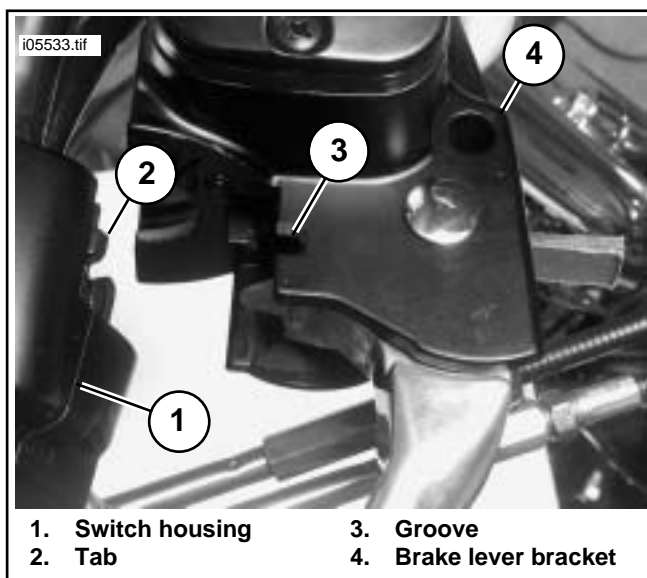

Figure 4. Fitting Master Cylinder To Switch Housing
2. See Figure 4. Position the brake lever/ master cylinder assembly inboard of the right-side handlebar switch housing assembly, engaging the tab (2) on the lower switch housing (1) with the groove (3) at the top of the brake lever bracket (4).